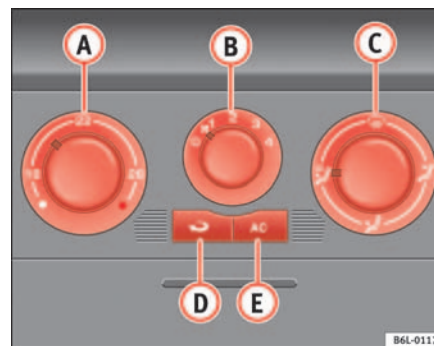

Fig. 93 On the instrument panel: air conditioner controls
- Using the controls \Rightarrow fig. 93 A and C and with the switch B you can set the temperature, air distribution and the blower speed.
- Close outlets ③.
- Open and turn outlets ④ towards side windows.